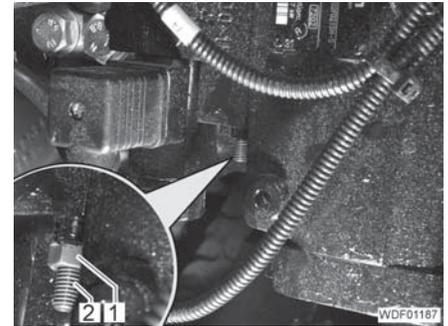

Fig. 28 Adjustment screw
- Undo the nut (Fig. 28,1).
- Adjust the inching pedal at the screw (Fig. 28,2):
- Tighten the nut (Fig. 28,1).